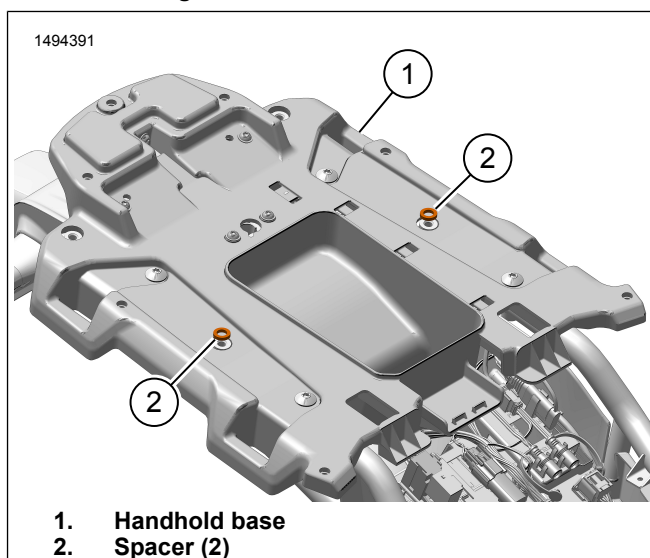

Figure 7. Spacers
6. See Figure 7. Install spacers (2) into handhold base (1).